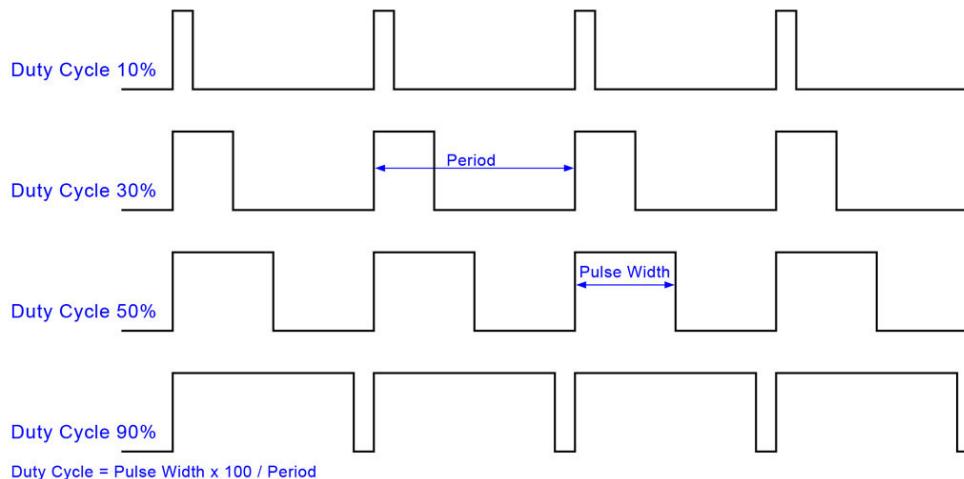

Figure 1: Pulse width modulation
2. [10 points] You will configure the timer T0 to generate a pulse width modulated (PWM) signal whose duty cycle is controlled by the user. Figure 1 shows typical PWM signals. Read the switches P1.0–P1.2 to accept the duty cycle from the user. Write a program to generate a PWM with the duty cycle corresponding to the switch positions as indicated in Table 1. Set the frequency of PWM signal be 0.5 Hz and use the LEDs P1.4–P1.7 (though one is sufficient) to monitor the generated output. The PWM information has also to be written out on the LCD in the following format. First row of the LCD should display the duty cycle in percent as “Duty cycle: xx”, where xx depends on the switch value. Second row should display the pulse width as “Pulse width: tttt”, where tttt represents $tttt \times 10^{-3}$ s.